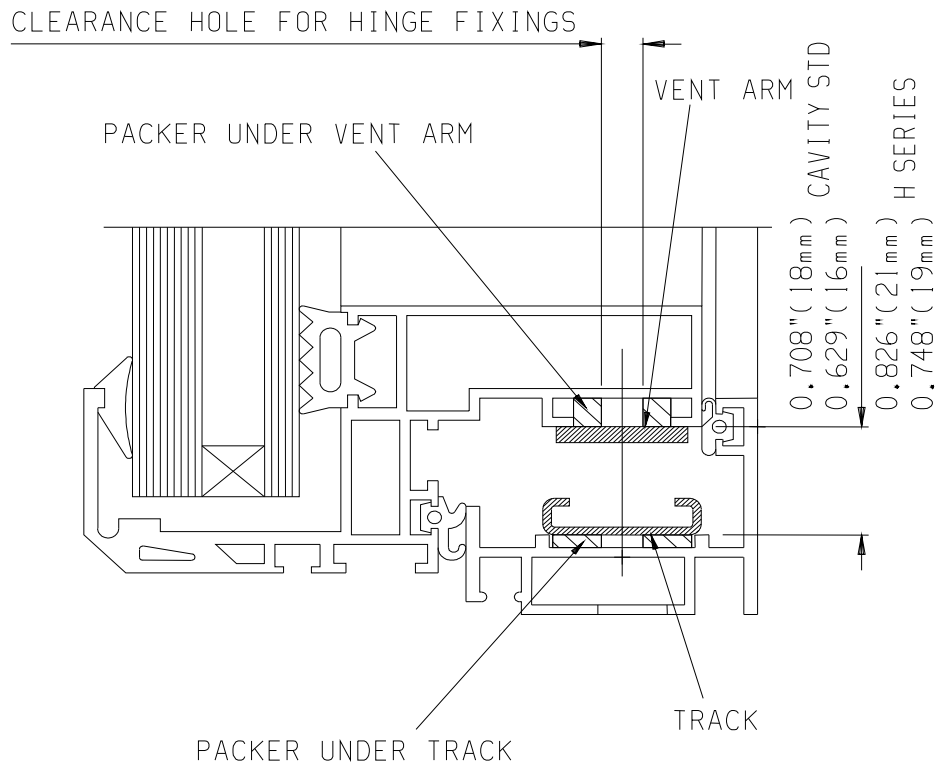

Fig. 5
2.1.13 If the profile does not have two flat parallel faces on which to fit the hinge, packers must be used to fill any recess and to bring the hinge cavity to between 0.63" - 0.71" (16 - 18mm) for standard hinges or 0.748" - 0.827" (19 - 21mm) for H series. See Fig. 5 below.